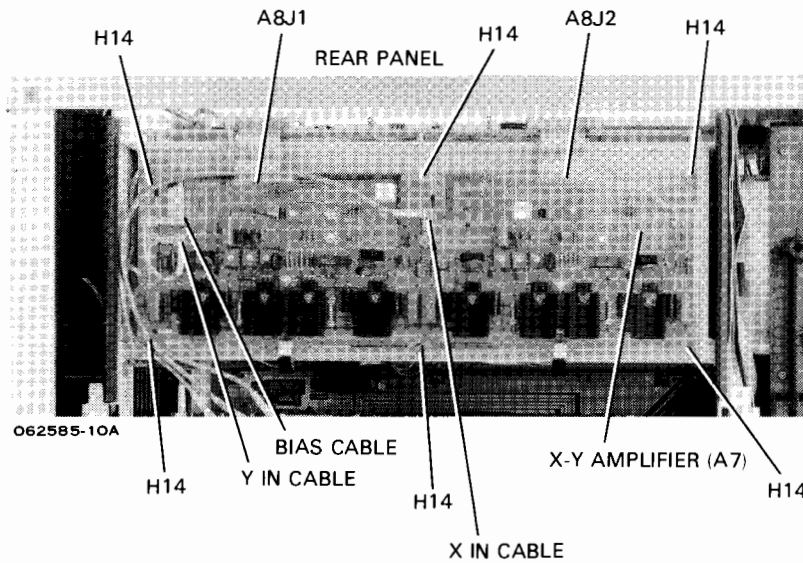

Figure 4-5. X-Y Amplifier Removal
- f. Reverse the above procedure when installing a new assembly. See figure 4-5.